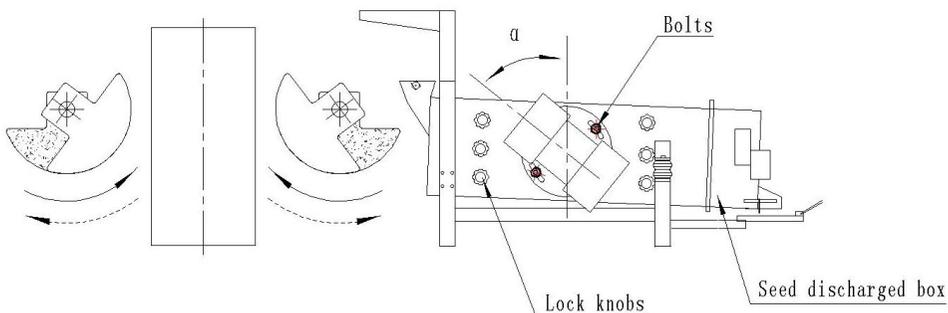

Fig.9
- c) Rotation direction of the two vibration motors must be opposite(see figure 9).